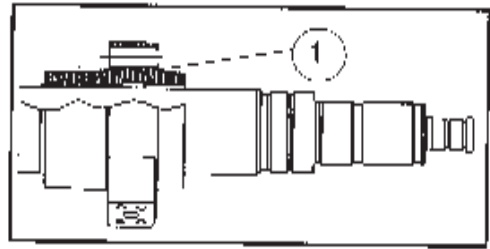

Fig. 19
- 1 Fit the cylinder head on (Fig. 19).